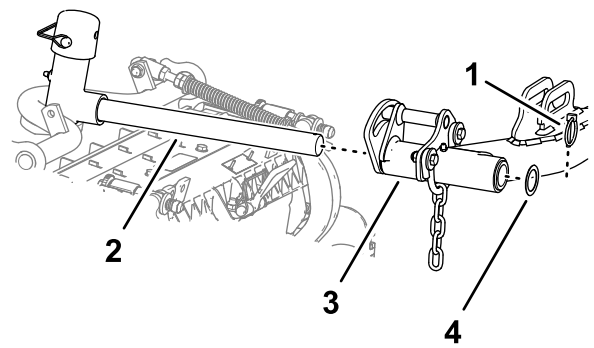

**Figure 29**
**Locking the Cutting-Unit Pivot for Cutting Grass on a Hill Side**—Lock the cutting-unit pivots to prevent the cutting units from rotating downhill when cutting across the face of a hill. Use the hole in the lift-arm pivot shaft (Figure 29) to lock the cutting unit. Use the slot for a steering cutting unit.